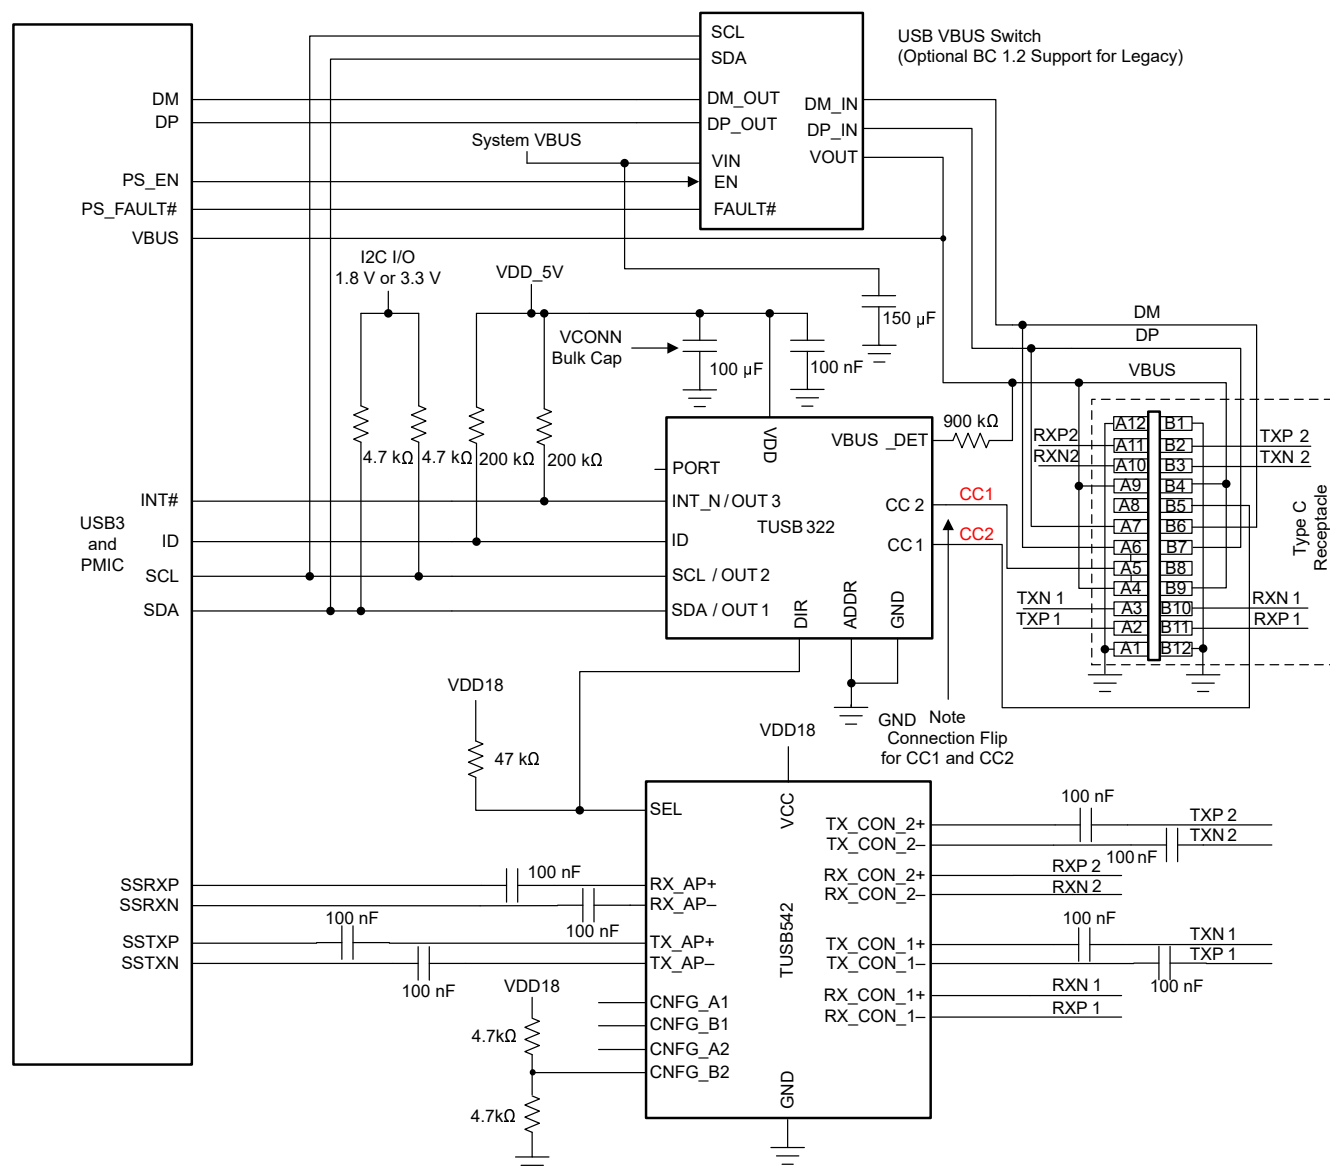

図 7-2. USB-C DRP Implementation Using TUSB542 and TUSB322/TUSB321
図 7-2 shows an example implementation of an USB Type-C DRP port using TUSB542. Texas Instruments TUSB322 is shown here as channel configuration (CC) controller. Note: connections for CNFG pins of TUSB542 is an example only. The connection of the CNFG pins is application dependent; refer to the 表 6-2, where the user can find the available settings.